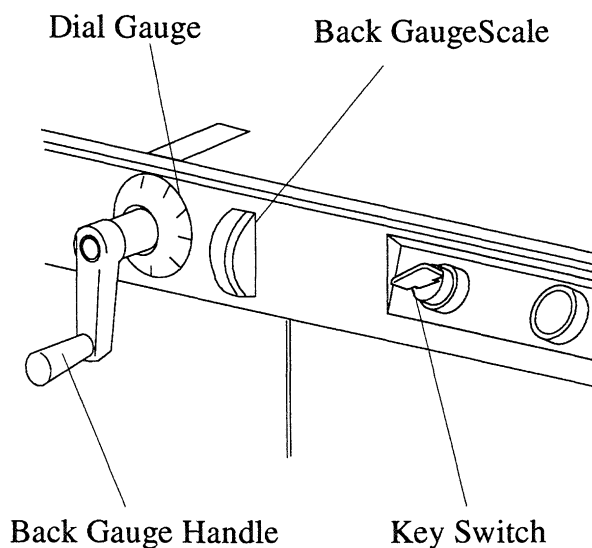

Fig. 2-1
- Insert key into power switch. (Fig. 2-1)
- Determine cut dimension and turn back gauge handle (Fig.2-1) to move back gauge to proper position according to back gauge dial or line up a cut mark on paper with illuminated cut line.
- Use dial gauge (Fig.2-1) to make fine adjustments. Back gauge moves 0.5 mm (1/32") for each division of dial gauge.